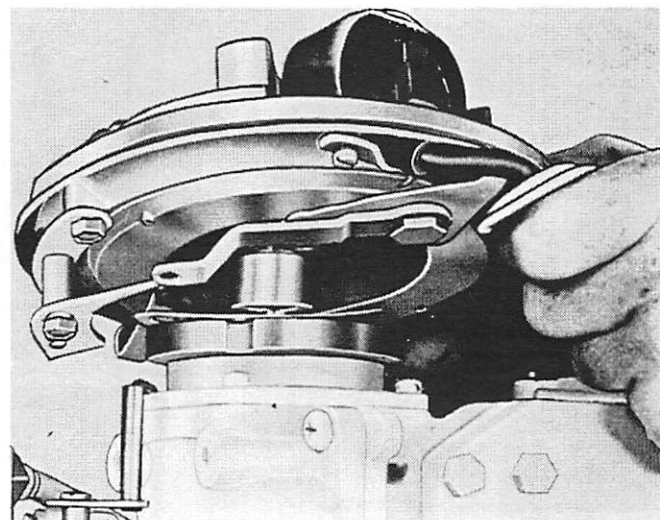

Figure 3. Removing Magneto from Powerhead
9. Magneto now can be lifted off. (Figure 3)